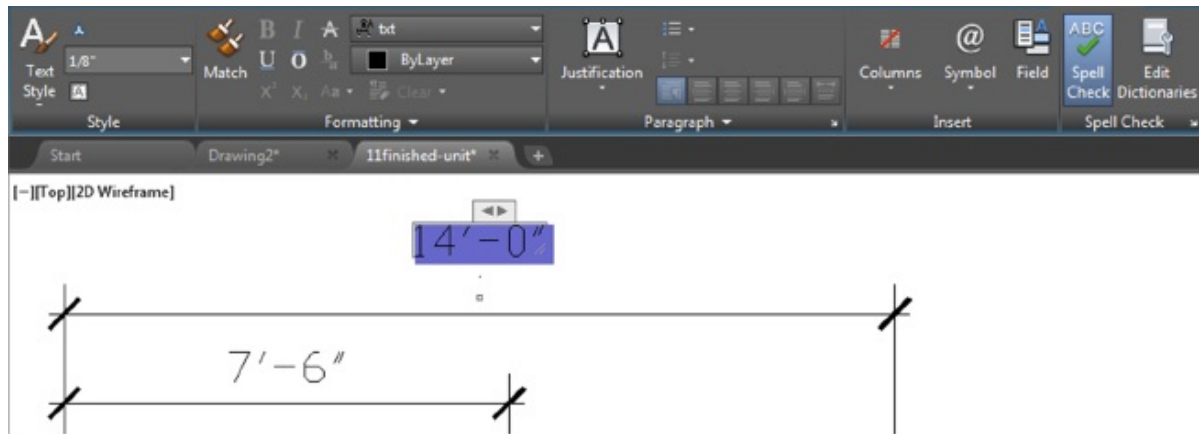

FIGURE 11.17 The Text Editor tab
2. Click the last horizontal dimension that you added to the drawing at the top of the screen. The Text Editor tab appears in the Ribbon (see Figure 11.17).